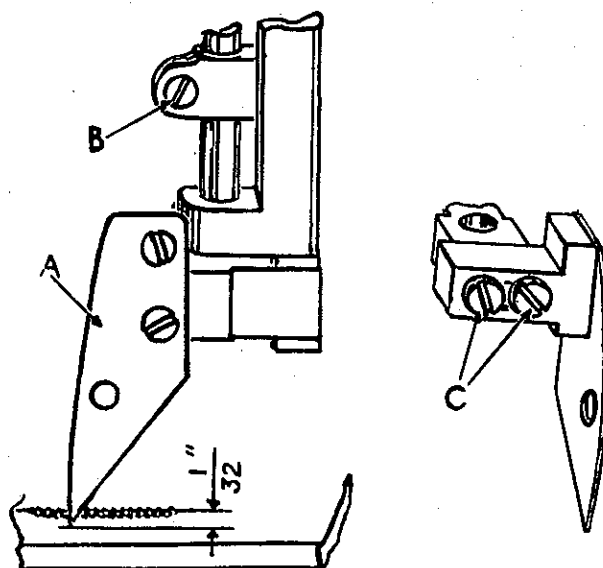

Fig. 16
The bag trimming knife (A, Fig. 16) should be set centrally in the knife slots in the presser foot and throat plate. It should also be set so that when at its highest position, the point of the knife is 1/32 inch below the surface of the throat plate. In order to set the knife for height loosen knife driving stud clamp screw "B" which allows the knife and knife holder to be moved up or down to proper position. To set the knife laterally, loosen screws (C) and locate knife in center of knife slot.